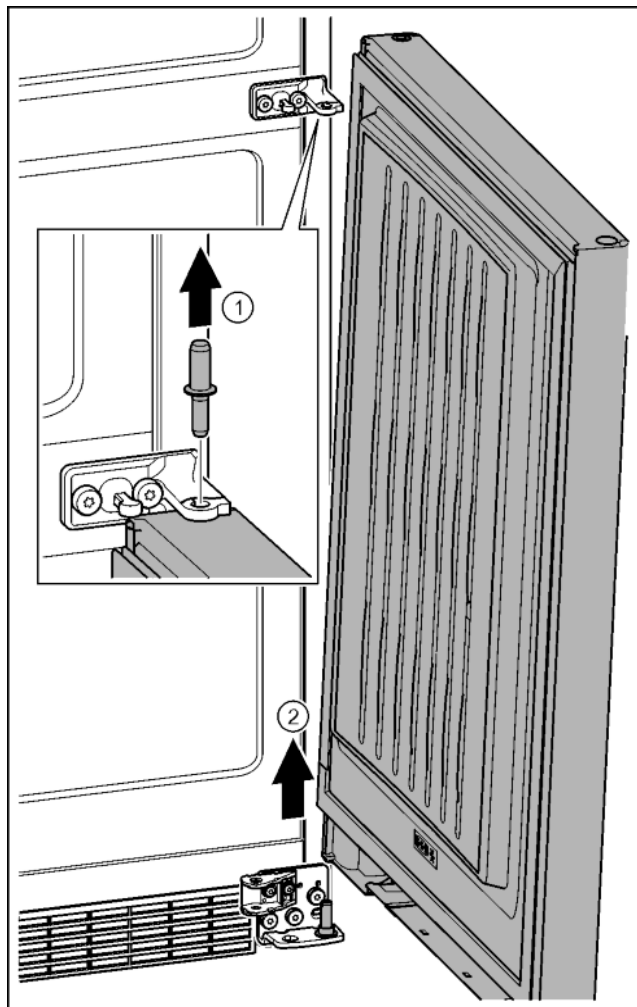

Fig. 21
- Pull out the bolts towards the top. *Fig. 21 (1)*
- Swing the door out, pull it upwards and set it aside. *Fig. 21 (2)*